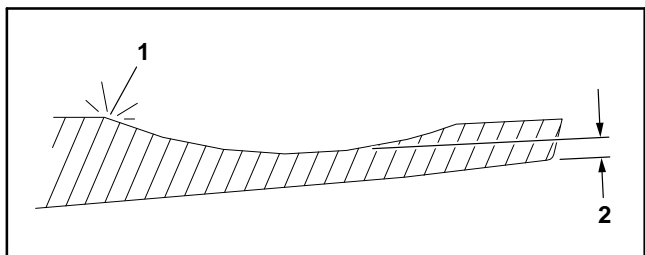

Figure 38
**IMPORTANT: Do Not grind the bedknife below its service limit (Fig 38). Operating the cutting unit with the bedknife below the service limit may result in poor after-cut appearance and reduce the structural integrity of the bedknife.**